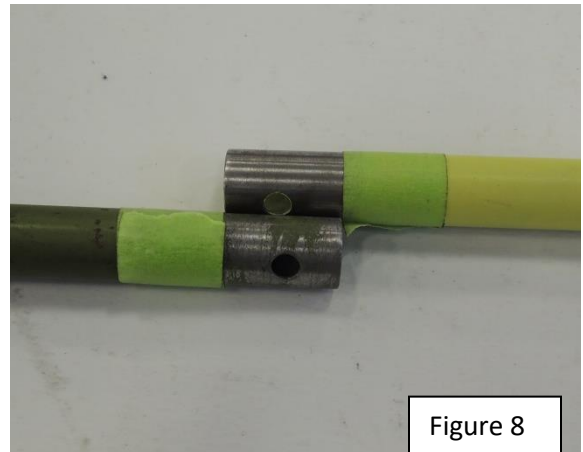

Figure 8
12. Lay the two cable support assemblies next to each other and tape the new one to indicate the proper insertion depth. (figure 8)